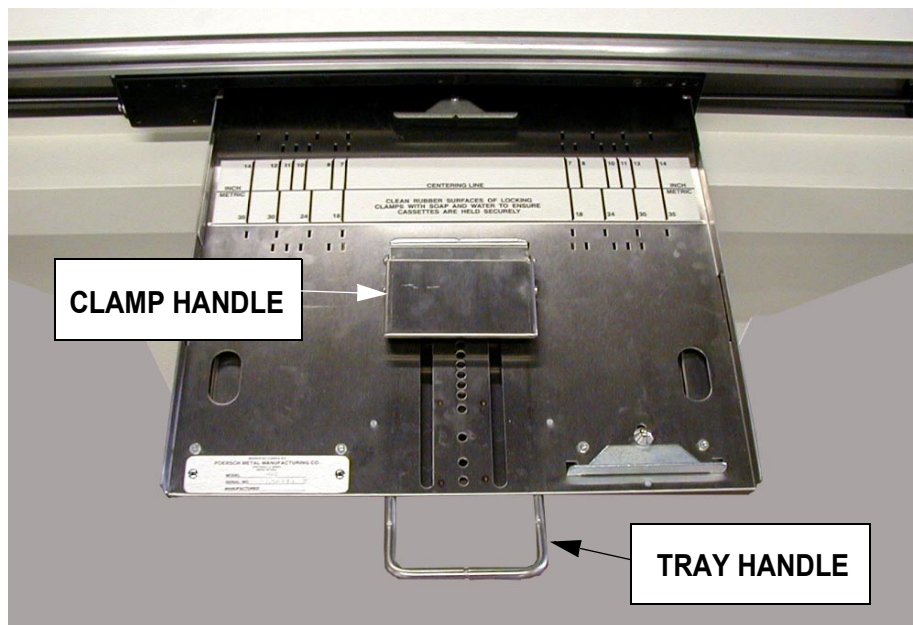

Figure 9. Poersch Cassette Film Tray
2. Pull cassette tray from receptor using tray handle (see Figure 9).